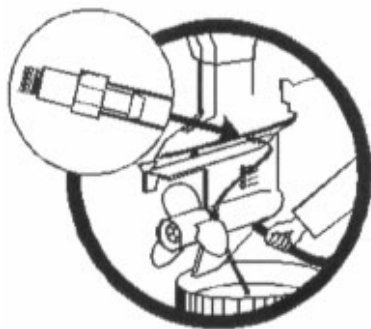

Fig. 1
1. After draining the lower unit as you normally would, install the check valve and the long clear hose assembly into the upper hole (See Fig. 1). We recommend that you put the hose end into a recovery container.
3. Thread the nozzle into the lower hole (as shown in Fig. 1), and turn the valve lever on.